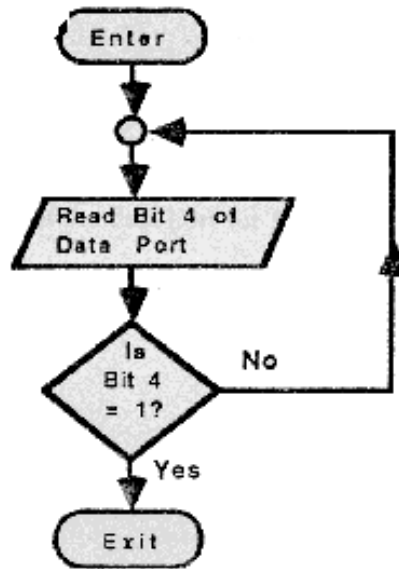

Figure 4.2 - Conditional loop. The loop is repeated until a “1” appears at input bit 4 of the data port
2. Repeating a program section until some predetermined condition becomes true (Figure 4.2)